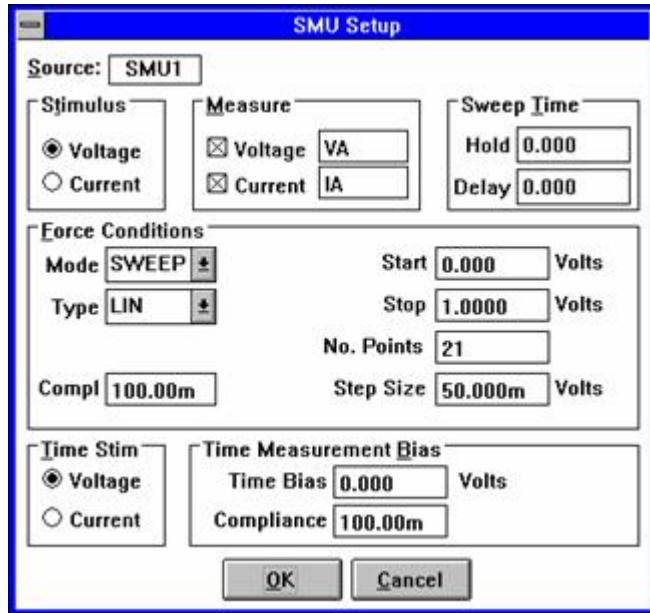
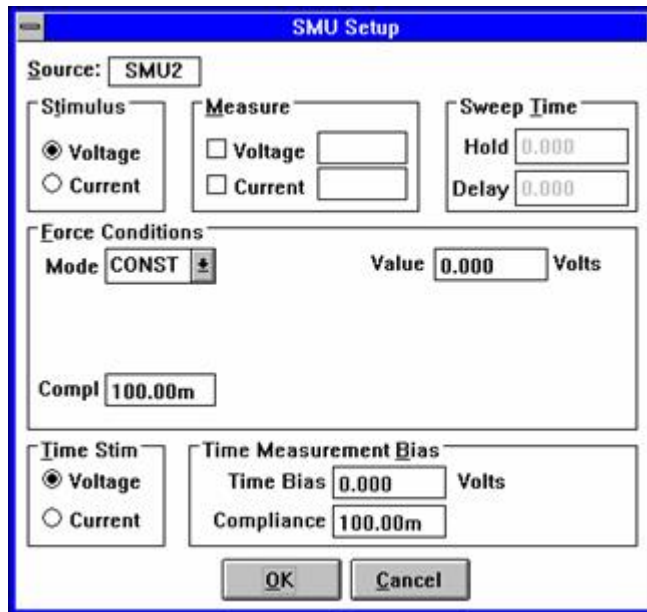

Figure 4: SMU1 Source/Measure Configuration for the DiodeOn Test Setup
Figure 5: SMU2 Source/Measure Configuration for the DiodeOn Test Setup
2. Configure the SMU1 controls as shown in Figure 4. Configure the SMU2 controls as shown in Figure 5. Use the mouse or TAB key to move between the different switches and fields in each Source Unit Setup dialogue box.